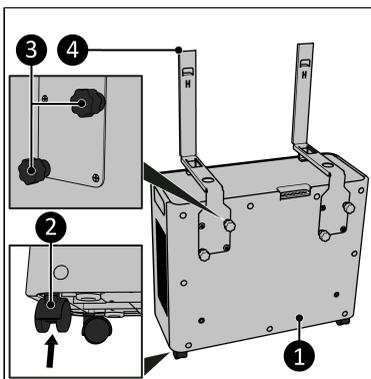

Figure 34.
2. Attach the wheels (Figure 34, pos. 2) to the outdoor unit (Figure 34, pos. 1) by pushing them into the holes on the bottom of the outdoor unit.
3. Attach the indoor brackets (Figure 34, pos. 4) to the outdoor unit (Figure 34, pos. 1) by tightening two screw caps per bracket (Figure 34, pos. 3).